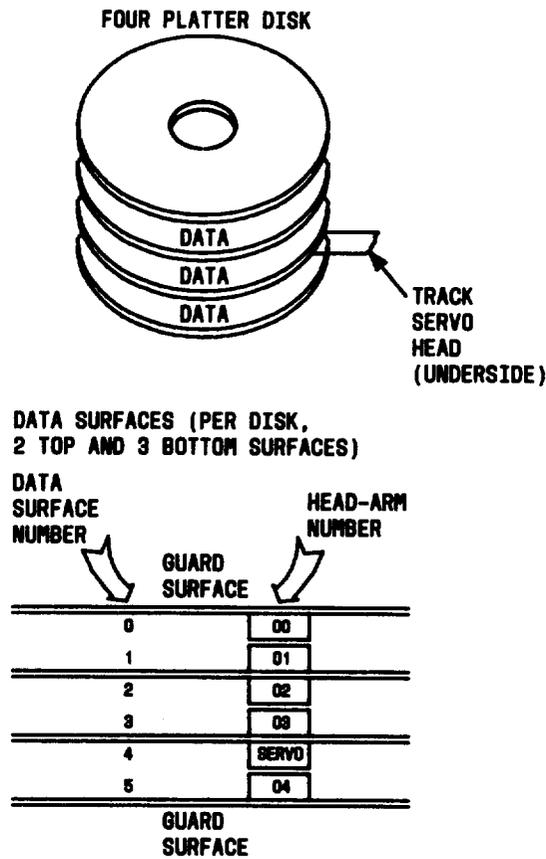

Fig. 3—Four-Platter Disk Layout
2.04 The KS-22693, L1, disk drive has a 160-megabyte storage capacity. The disk drive controls and accesses a 14-inch, 4-platter rigid disk. The uppermost and lowermost data recording surfaces are not used for information storage. Of the remaining six data recording surfaces, one is provided for servo track information and five are for data storage (Fig. 3). The servo surface is accessed by a single data recording head, but each of the other five data recording surfaces is accessed by two movable data recording heads.